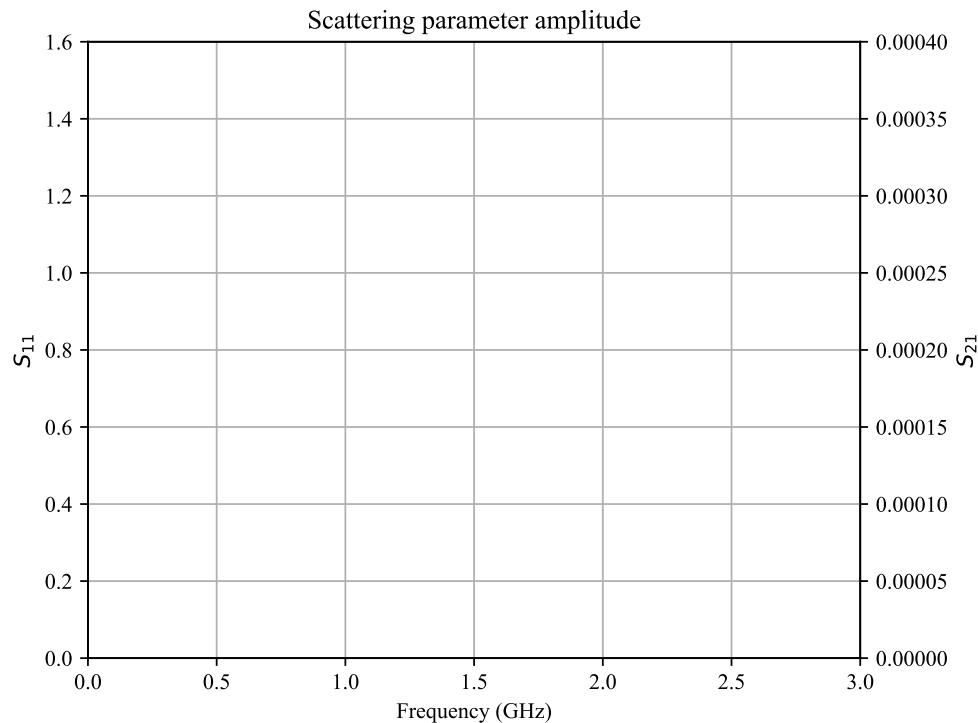

Figure 4: Actual uncalibrated scattering parameters (to be completed).
6. *(Lab)* Sketch the measured data ($|S_{11}|$ and $|S_{21}|$) in fig. 4.